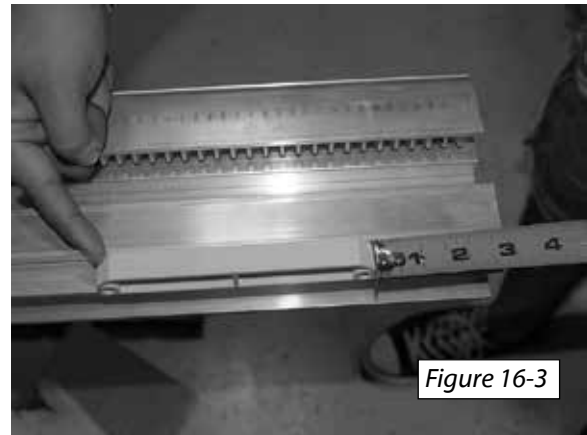

Figure 16-3
8. Position the end of the cam at 1-3/4" within the end of the rail. Secure the limit cams with (2) 10-24 screws and square nuts (provided). [Figure 16-3]